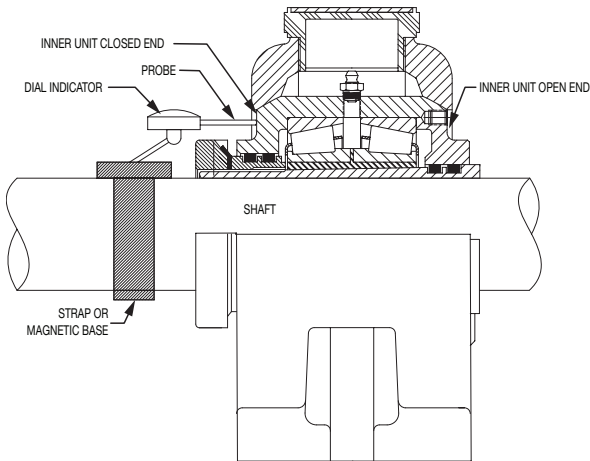

Figure 1
11. Tighten hold-down bolts to secure outer housing to support. Mount a dial indicator on the shaft near the bearing. Place the indicator probe so that it contacts the face of the inner unit housing on the closed end (end with instruction plate). See Figure 1.